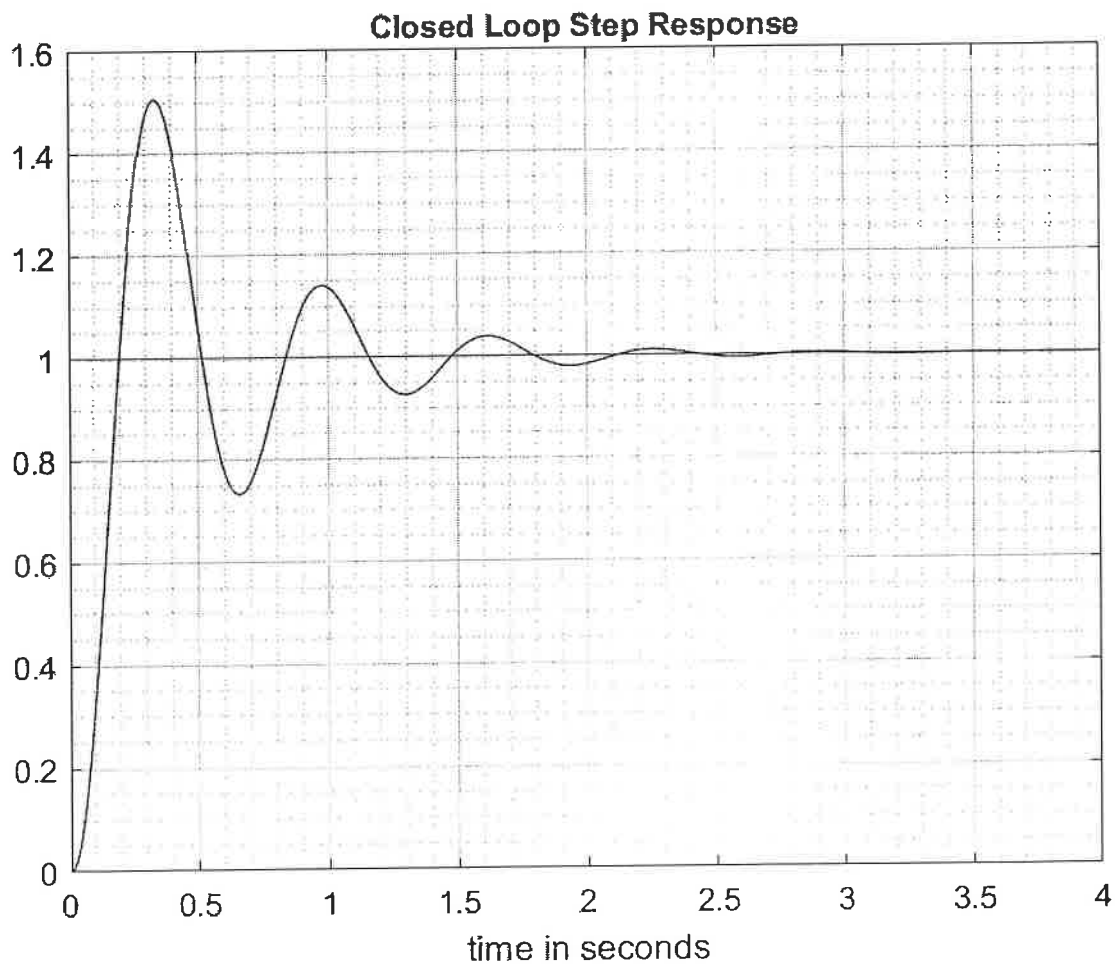
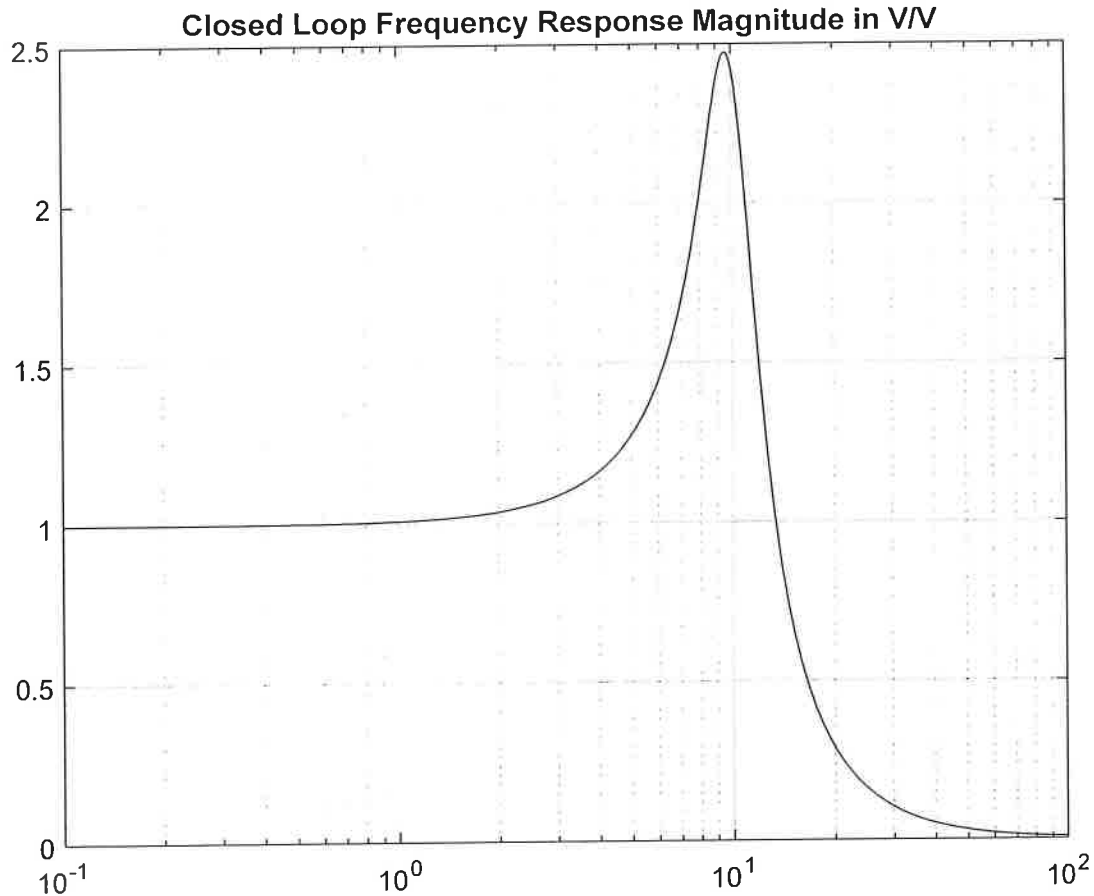

Figure Q8.1: Step Response of the Closed Loop Transfer Function $G_{cl}(s)$ in Question 8.
Figure Q8.2 – Closed Loop Frequency Response (Magnitude) Plot of $|G_{cl}(j\omega)|$
Your task is to determine an appropriate 2nd order dominant poles model to represent it. The step response of the closed loop transfer function $G_{cl}(s)$ is shown in Figure Q8.1, and the magnitude plot of a frequency response of $G_{cl}(j\omega)$ is shown in Figure Q8.2.
- 2) **(6 marks)** Determine the model parameters from the step response plot in Figure Q8.1, and write the transfer function of this model, $G_{m2}(s)$.
- 3) **(6 marks)** Determine the model parameters from the plot of $|G_{cl}(j\omega)|$ in Figure Q8.2, and write the transfer function of this model, $G_{m3}(s)$.